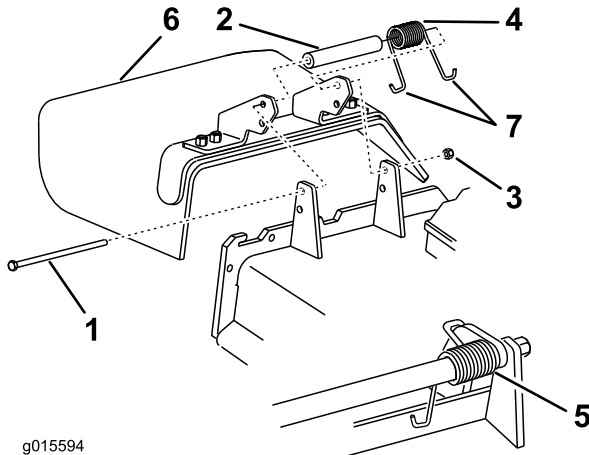

Figure 62
1. Remove the locknut, bolt, spring and spacer holding the deflector to the pivot brackets (Figure 62).
Note: Make sure that 1 J-end of the spring is installed behind the deck edge before installing the bolt as shown in Figure 62.
6. Place 1 J-hook end of the spring around the grass deflector (Figure 62).